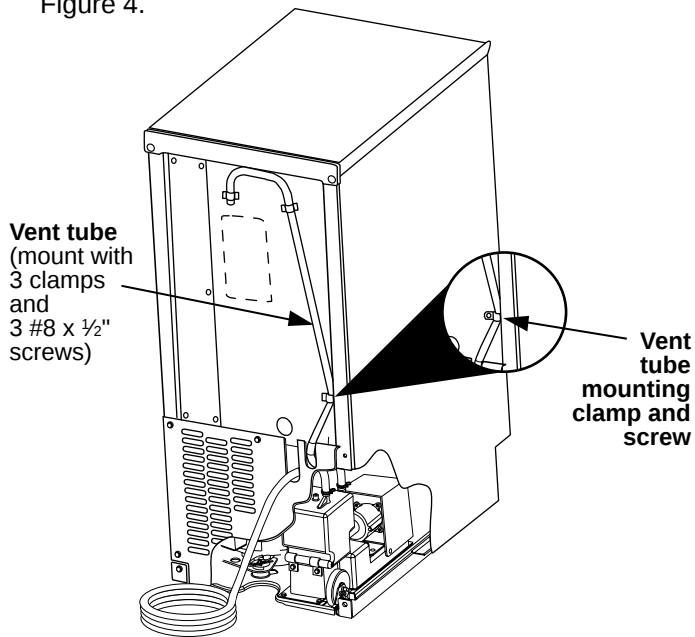

Figure 4
13. Secure vent tube to back of ice maker using three (3) clamps and three (3) #8 x ½" screws supplied. See Figure 4.